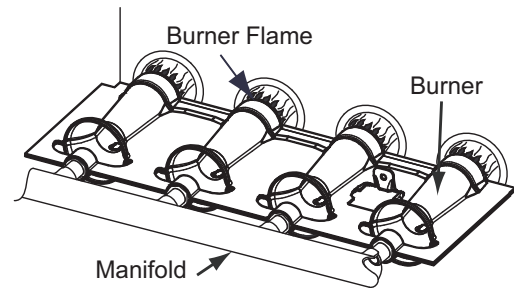

Fig. 62 – Burner Flame
- i. When correct input is obtained, replace cap that conceals gas valve regulator adjustment screws. Main burner flame should be clear blue, almost transparent See Fig. 62.